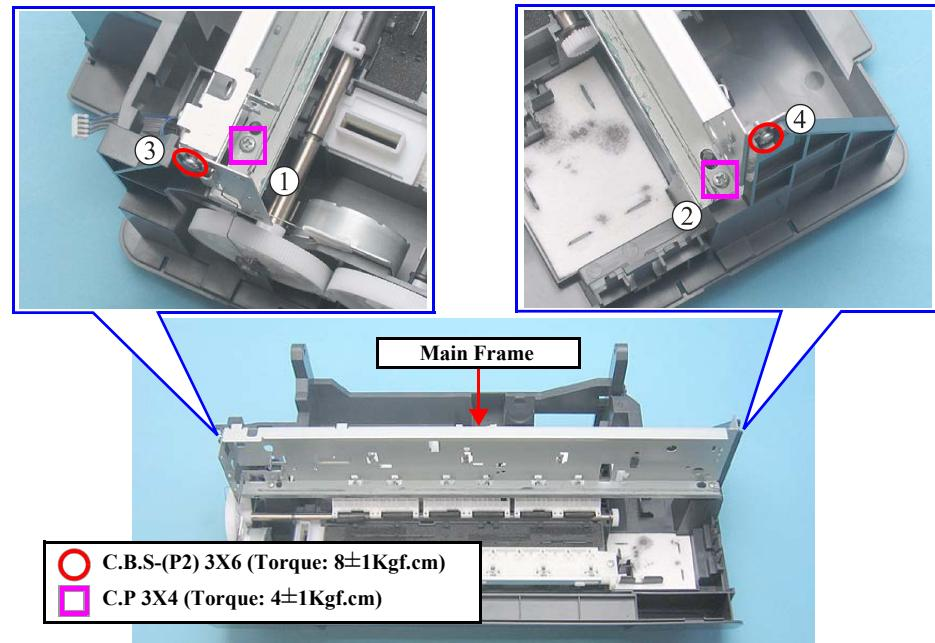

Figure 4-56. Removing Main Frame (1)
- When securing the Main Frame to the Frame Base with screws, be sure to perform the tightening in the order of the numbers indicated in Figure 4-56 \(p.56\).